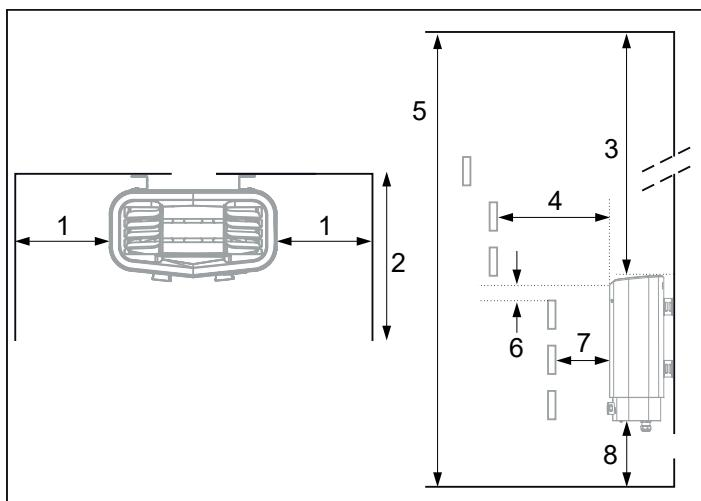

Figure 3: Heater positioning - recess installation (minimum permitted volume 4 m3)
- on the same wall as the door (in exceptional cases it can be installed on the side wall, provided it is very close to the wall with the door). The heater may also be installed in a recess (see Figure 3).
Position the heater at a safe distance from the floor, side walls and interior fittings (see Figure 3).